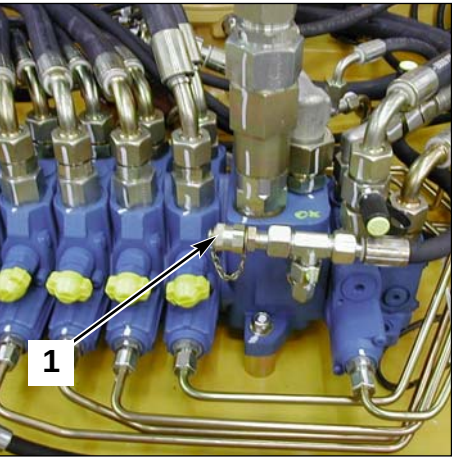

Fig. 2 SX14 valve block
- 5- Measure the pressure (1 fig. 2) using the pressure gauge.